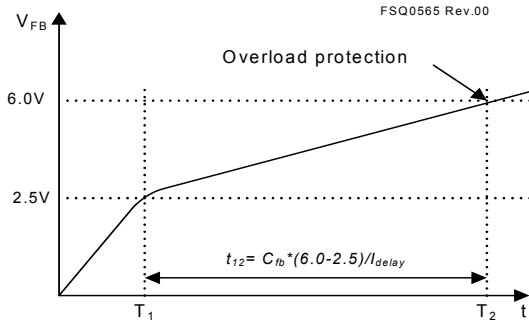

Figure 30. Overload Protection
4.1 Overload Protection (OLP): Overload is defined as the load current exceeding its normal level due to an unexpected abnormal event. In this situation, the protection circuit should trigger to protect the SMPS. However, even when the SMPS is in the normal operation, the overload protection circuit can be triggered during the load transition. To avoid this undesired operation, the overload protection circuit is designed to trigger only after a specified time to determine whether it is a transient situation or a true overload situation. Because of the pulse-by-pulse current limit capability, the maximum peak current through the SenseFET is limited, and therefore the maximum input power is restricted with a given input voltage. If the output consumes more than this maximum power, the output voltage (V_O) decreases below the set voltage. This reduces the current through the opto-coupler LED, which also reduces the opto-coupler transistor current, thus increasing the feedback voltage (V_{FB}). If V_{FB} exceeds 2.5V, D1 is blocked and the 5 μ A current source starts to charge C_B slowly up to V_{CC} . In this condition, V_{FB} continues increasing until it reaches 6V, when the switching operation is terminated, as shown in Figure 30. The delay time for shutdown is the time required to charge C_{FB} from 2.5V to 6V with 5 μ A. A 20 ~ 50ms delay time is typical for most applications.